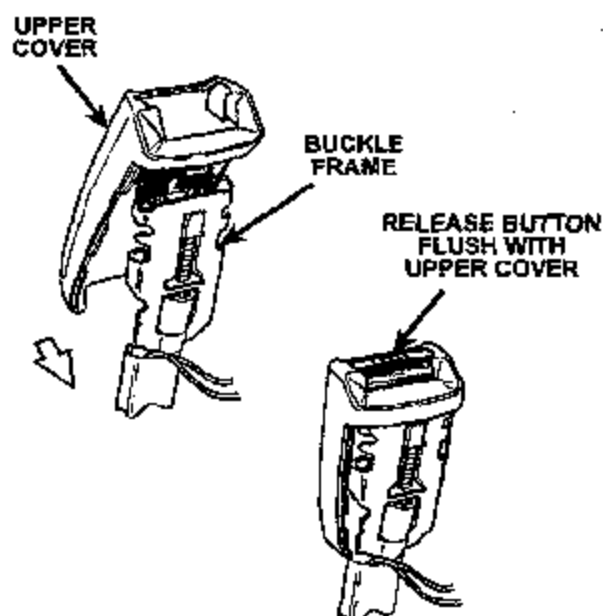

Figure 11
17. Install the provided upper buckle cover over the buckle mechanism (Figure 11). The cover should snap into place and the release button should be flush with the buckle cover. Verify again that the buckle operates properly by latching and unlatching the seat belt tongue several times.